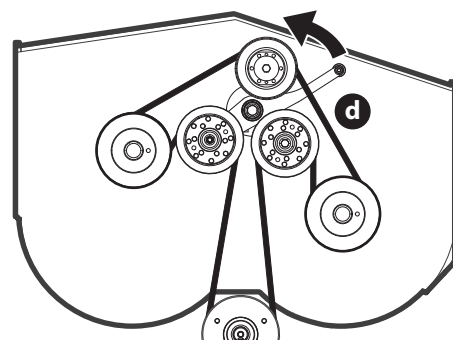

Fig. 40
4. Rotate the deck idler assembly counterclockwise (Fig. 40).
- Route the new belt as shown in Fig. 40 on page 25. Then reinstall the deck and PTO belt as instructed on page 24.